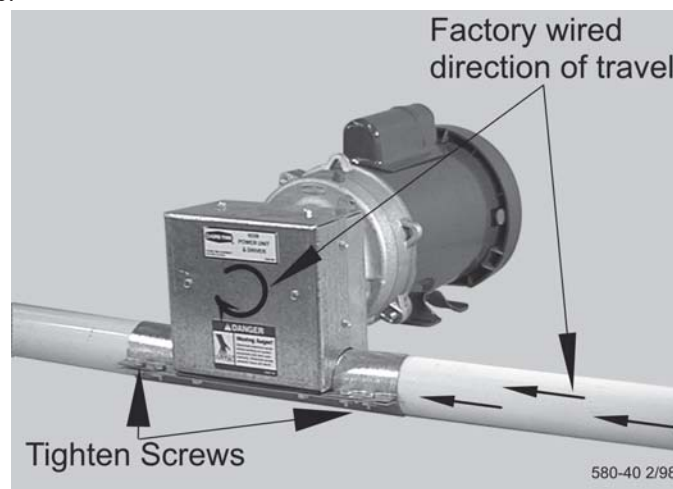

Figure 6. Power Unit and Driver Assembly
2. Measure and cut the tube at the required location of the power unit/driver assembly. Insert the tube as far as possible into the driver assembly housing to provide a sturdy, well-sealed fit. Tighten the screws to hold the tube in place. **THESE SCREWS MUST BE TIGHT!** See Figure 6.